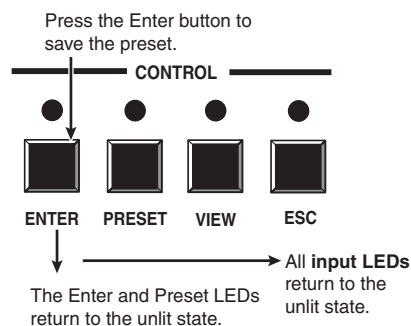

Figure 3-41 — Press the Enter button
4. Press and release the Enter button (figure 3-41). The current configuration is now stored in the selected memory location.